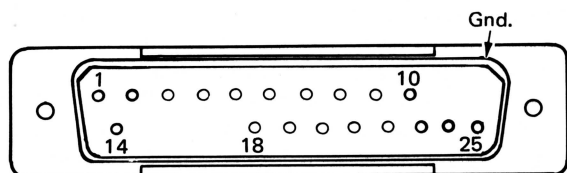

Figure 1
5. Apply a ground to each pin, 1 through 8 (Fig.1), in the Interface Cable Connector. No response from the typewriter should occur.